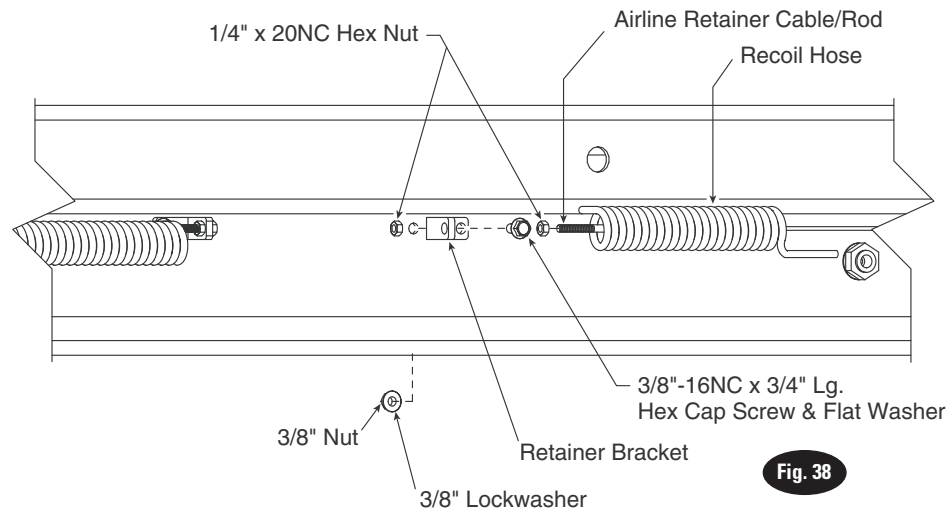

Fig. 38
- A. Attach retainer brackets for the rear recoil hose with 3/8"-16NC x 3/4" Lg. hex cap screw, flat washer, lock washer and nut, Fig. 38.
- B. Insert retainer cable through coils of recoil hose, Fig. 38. Run a 1/4"-20NC hex nut down onto each end of retainer cable. Insert each end of cable into retainer brackets. Secure each cable end with another 1/4"-20NC hex nut. Tighten jam nuts, Fig. 38.
- A. Insert retainer cable through coils of recoil hose, Fig. 38. Connect one end of recoil hose to coupling welded on rolling jack, Fig. 41 and 42.